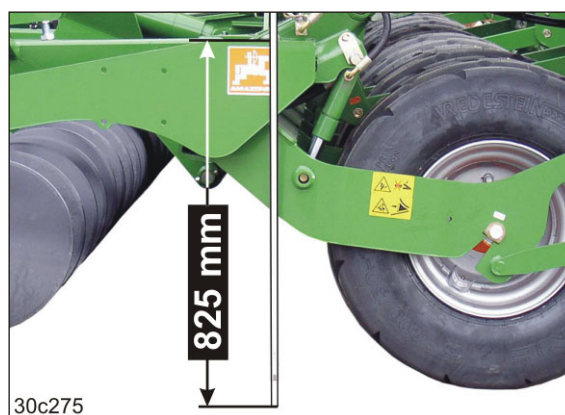

Fig. 251
1. Measure the distance between the measuring edge of the frame and the wheel contact surface (see Fig. 251).